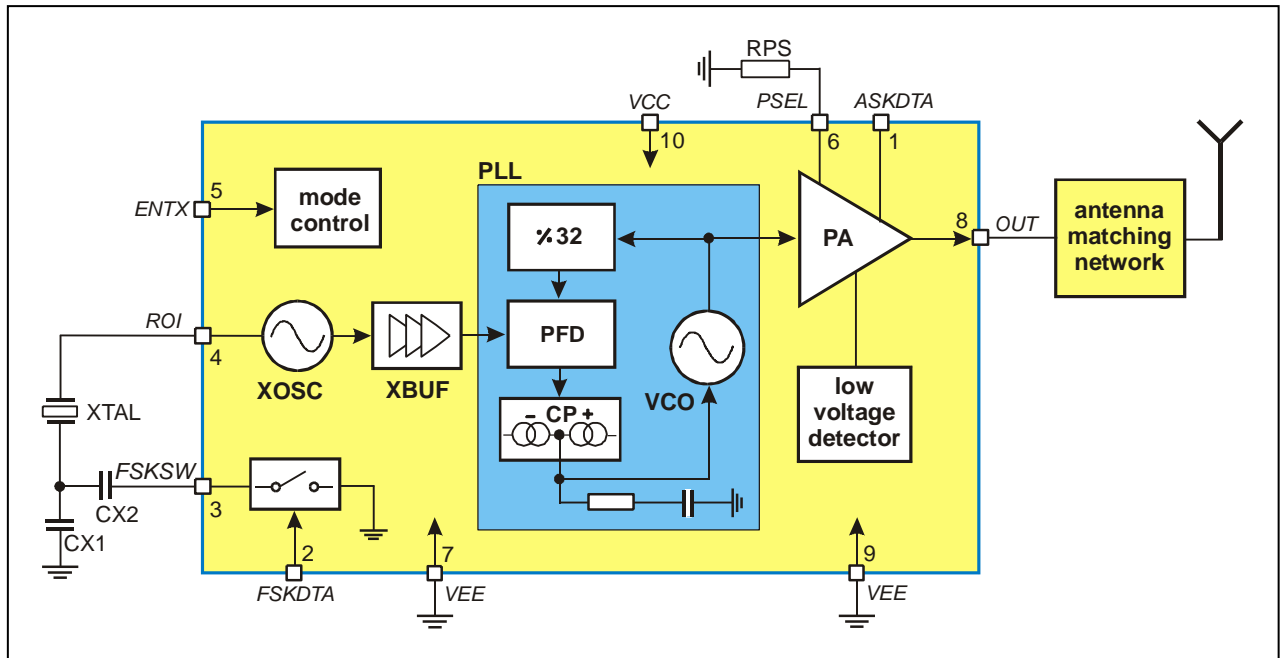

Fig. 1: Block diagram with external components
As depicted in Fig.1, the TH72005 transmitter consists of a fully integrated voltage-controlled oscillator (VCO), a divide-by-32 divider (div32), a phase-frequency detector (PFD) and a charge pump (CP). An internal loop filter determines the dynamic behavior of the PLL and suppresses reference spurious signals. A Colpitts crystal oscillator (XOSC) is used as the reference oscillator of a phase-locked loop (PLL) synthesizer. The VCO's output signal feeds the power amplifier (PA). The RF signal power P_{out} can be adjusted in four steps from $P_{out} = -12$ dBm to +11 dBm, either by changing the value of resistor RPS or by varying the voltage V_{ps} at pin PSEL. The open-collector output (OUT) can be used either to directly drive a loop antenna or to be matched to a 50Ohm load. Bandgap biasing ensures stable operation of the IC at a power supply range of 1.95 V to 5.5 V.